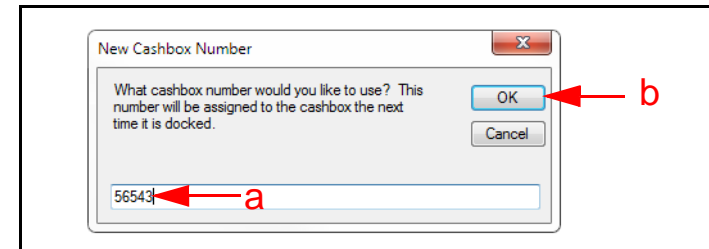

Figure 36 Entering a New Cashbox Serial Number
3. Enter the new Cash Box Serial Number (Figure 36 a), then click 'OK' (Figure 36 b).